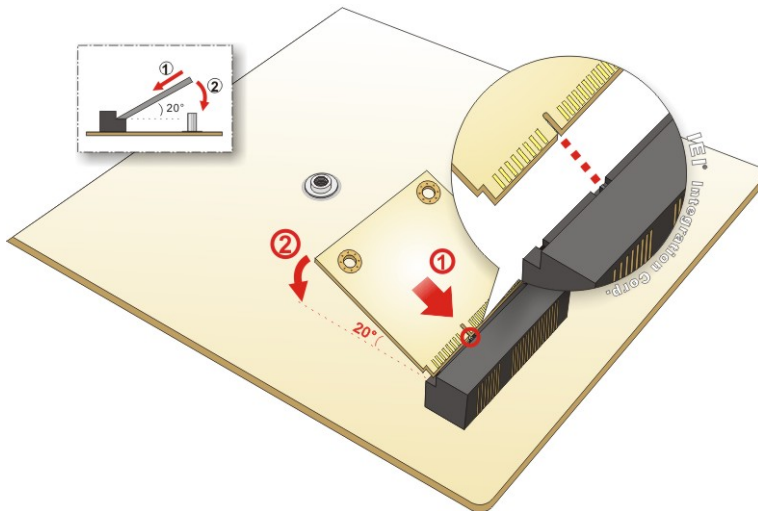

Figure 4-10: Inserting the Half-size PCIe Mini Card into the Slot at an Angle
Step 4: Line up the notch on the card with the notch on the slot. Slide the PCIe Mini card into the slot at an angle of about 20° (Figure 4-10).